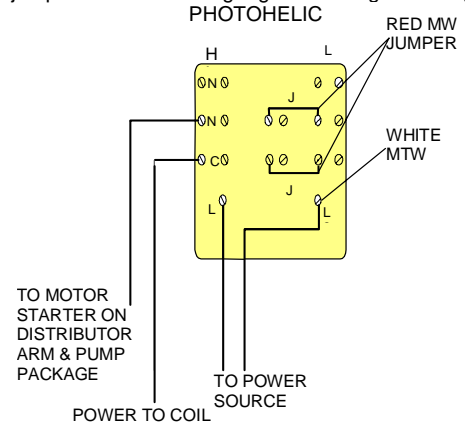

Figure 4-13 Jumpers and Wiring of the Photohelic Switch/Gauge
3. Install jumpers on the switch/gauge according to the Figure 4-13.